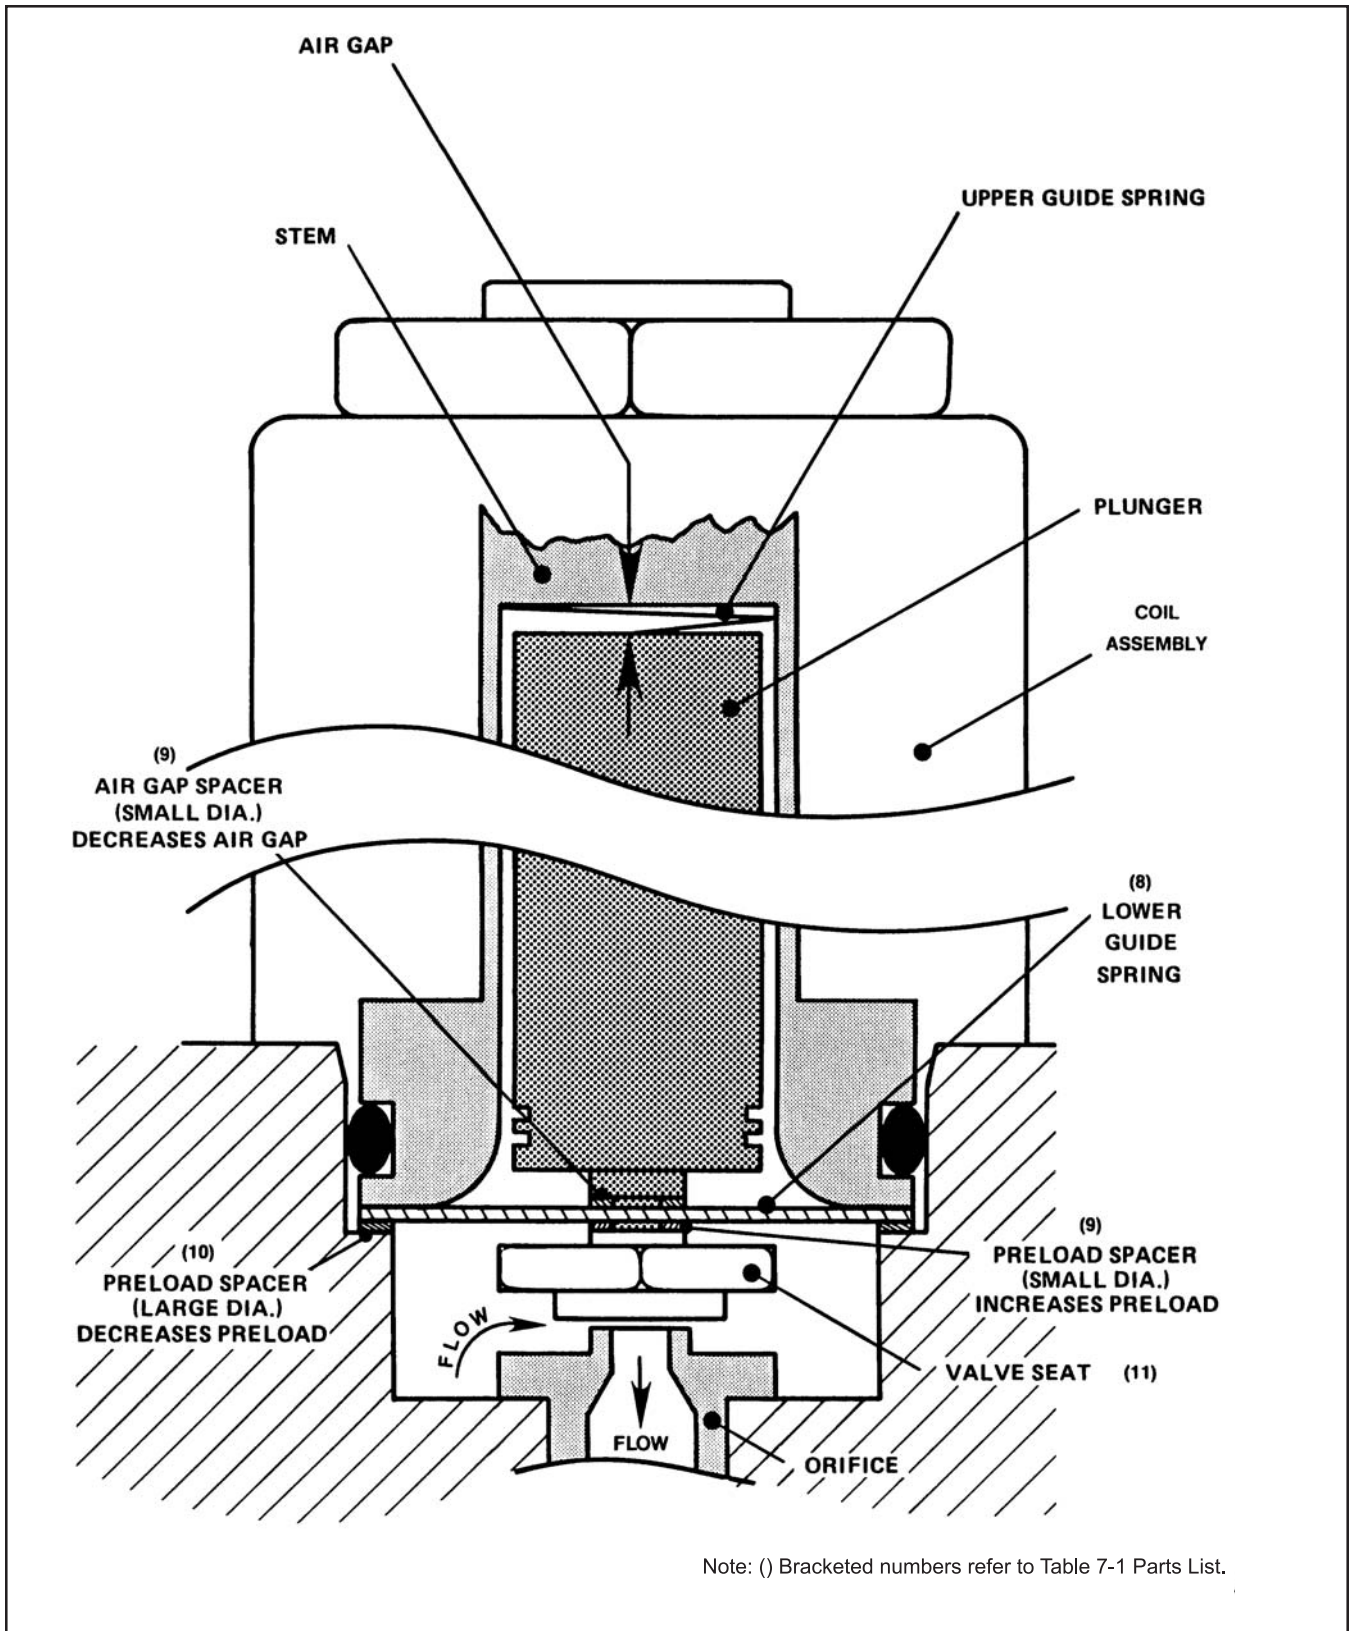

Figure 5-3 Valve Adjusting Spacer Locations, Normally Closed (N.C.) Elastomer Sealed Valve
Refer to Figure 5-3 for spacer locations and nomenclature for the Normally Closed (N.C.) control valve. Refer to Section 7, spare parts for the spacer part numbers and the spacer kit part number. The preload determines the initial force required to raise the valve seat off the orifice and start gas flow. If the preload is insufficient the valve will not fully close and gas will leak through when the valve is closed. If preload is excessive the magnetic force generated between the plunger and stem will be insufficient to raise the plunger and the valve will not open.
2. Remove gas pressure. Disassemble the control valve following the procedure given in Section 5-3, above. Note the orifice size, which is marked on the orifice face. Referring to Figure 5-3, note the number, location and thickness of all spacers.